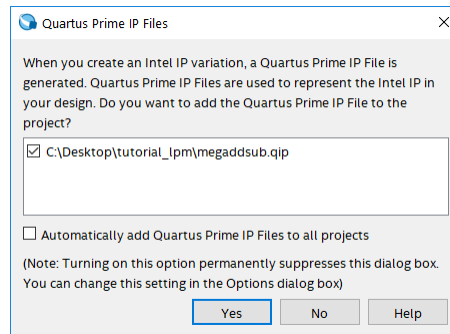

Figure 12. Do not add the new files to the project.
- The box in Figure 12 may pop up. If it does, make sure to press **NO**, since adding the newly generated files to the project is not needed when using VHDL (in fact, this may cause compilation errors).